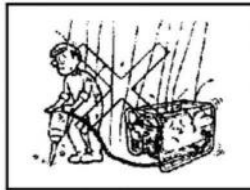

Fig2
2. Do not operate it under wet conditions. (Fig 2)